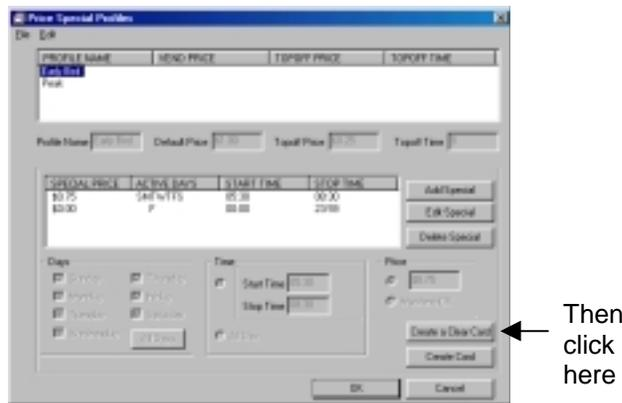

Figure 8.27 Creating a Clear Card
2. Click the Create a Clear Card button (Figure 8.27).